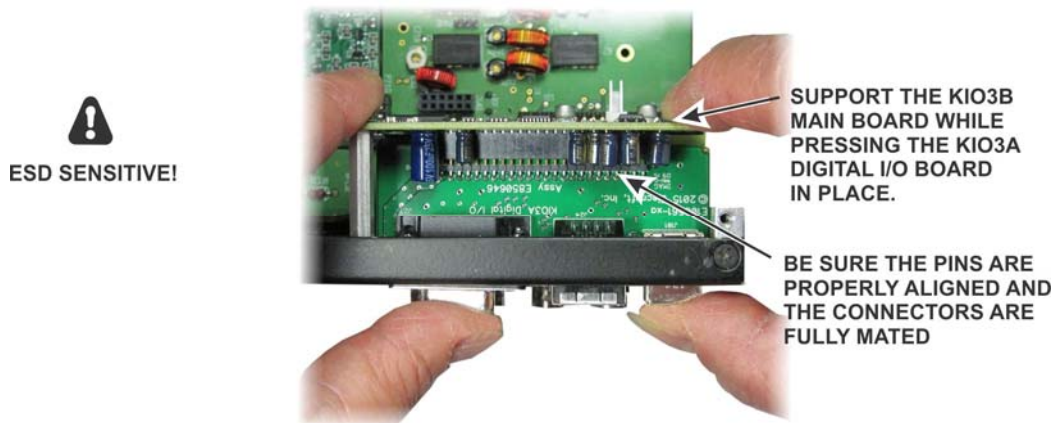

Figure 59. Installing the KIO3A Digital I/O Board.
- Install the KIO3B Digital I/O daughter board as shown in Figure 59. Be careful to support the KIO3B main board as shown while pressing the daughter board in place.